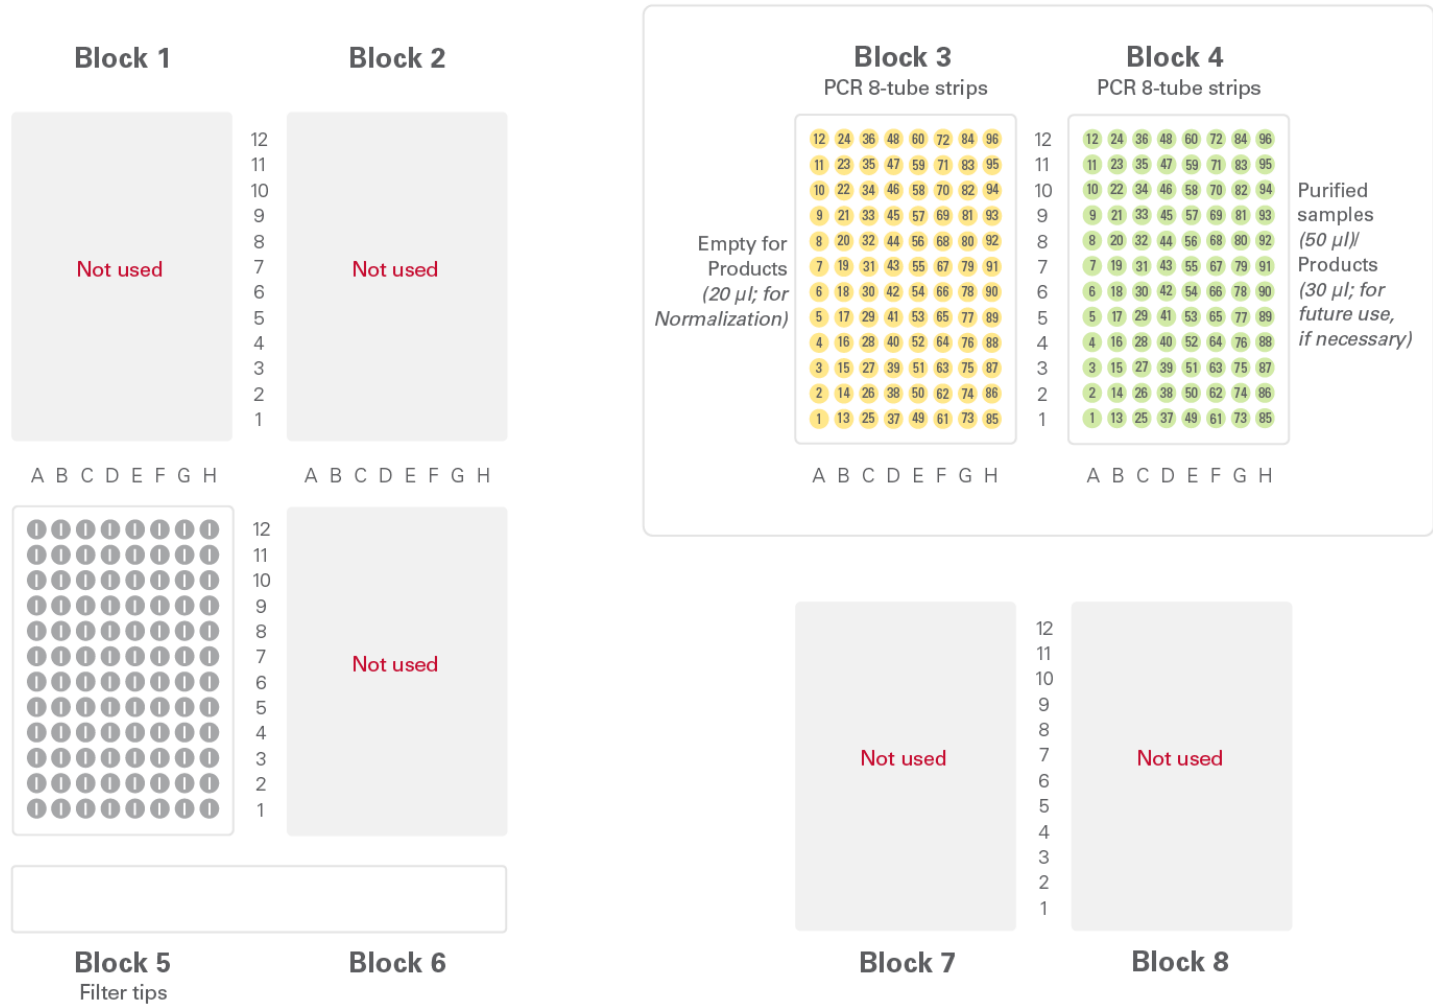

Figure 5. Loading layout for PCR split.
3. Load consumables and tubes containing purified PCR products onto the work surface following the layout in Figure 5 (next page), and uncap the PCR tubes.